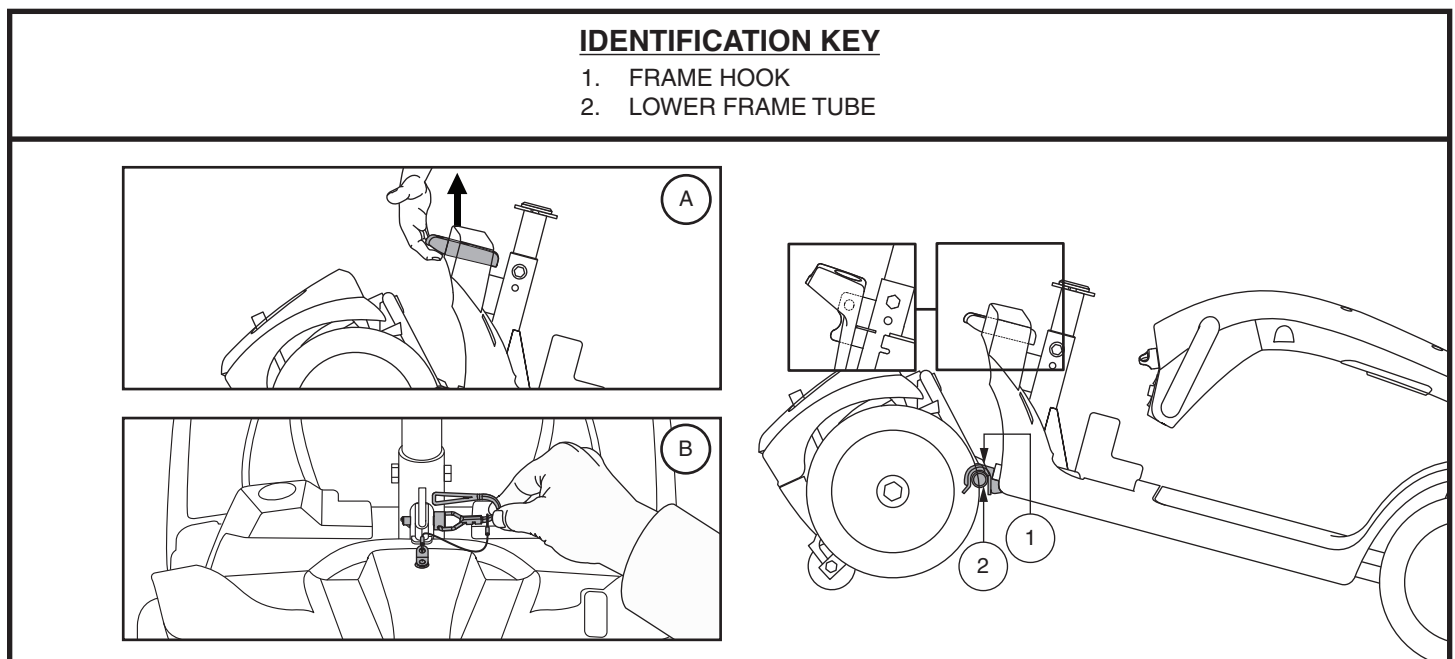

Figure 27. Frame Release Lever (Style A) and Frame Release Lockup Pin (Style B)
3. Remove the frame lockup pin (*Model 104 only*) See **figure 27**.
1. Position the front and rear sections of your scooter as shown in **figure 27**.
2. Use the frame release lever (or the seat post for model 104) to lift the front section as you align the frame hooks of the front section with the lower frame tube of the rear section. See **figure 27**.